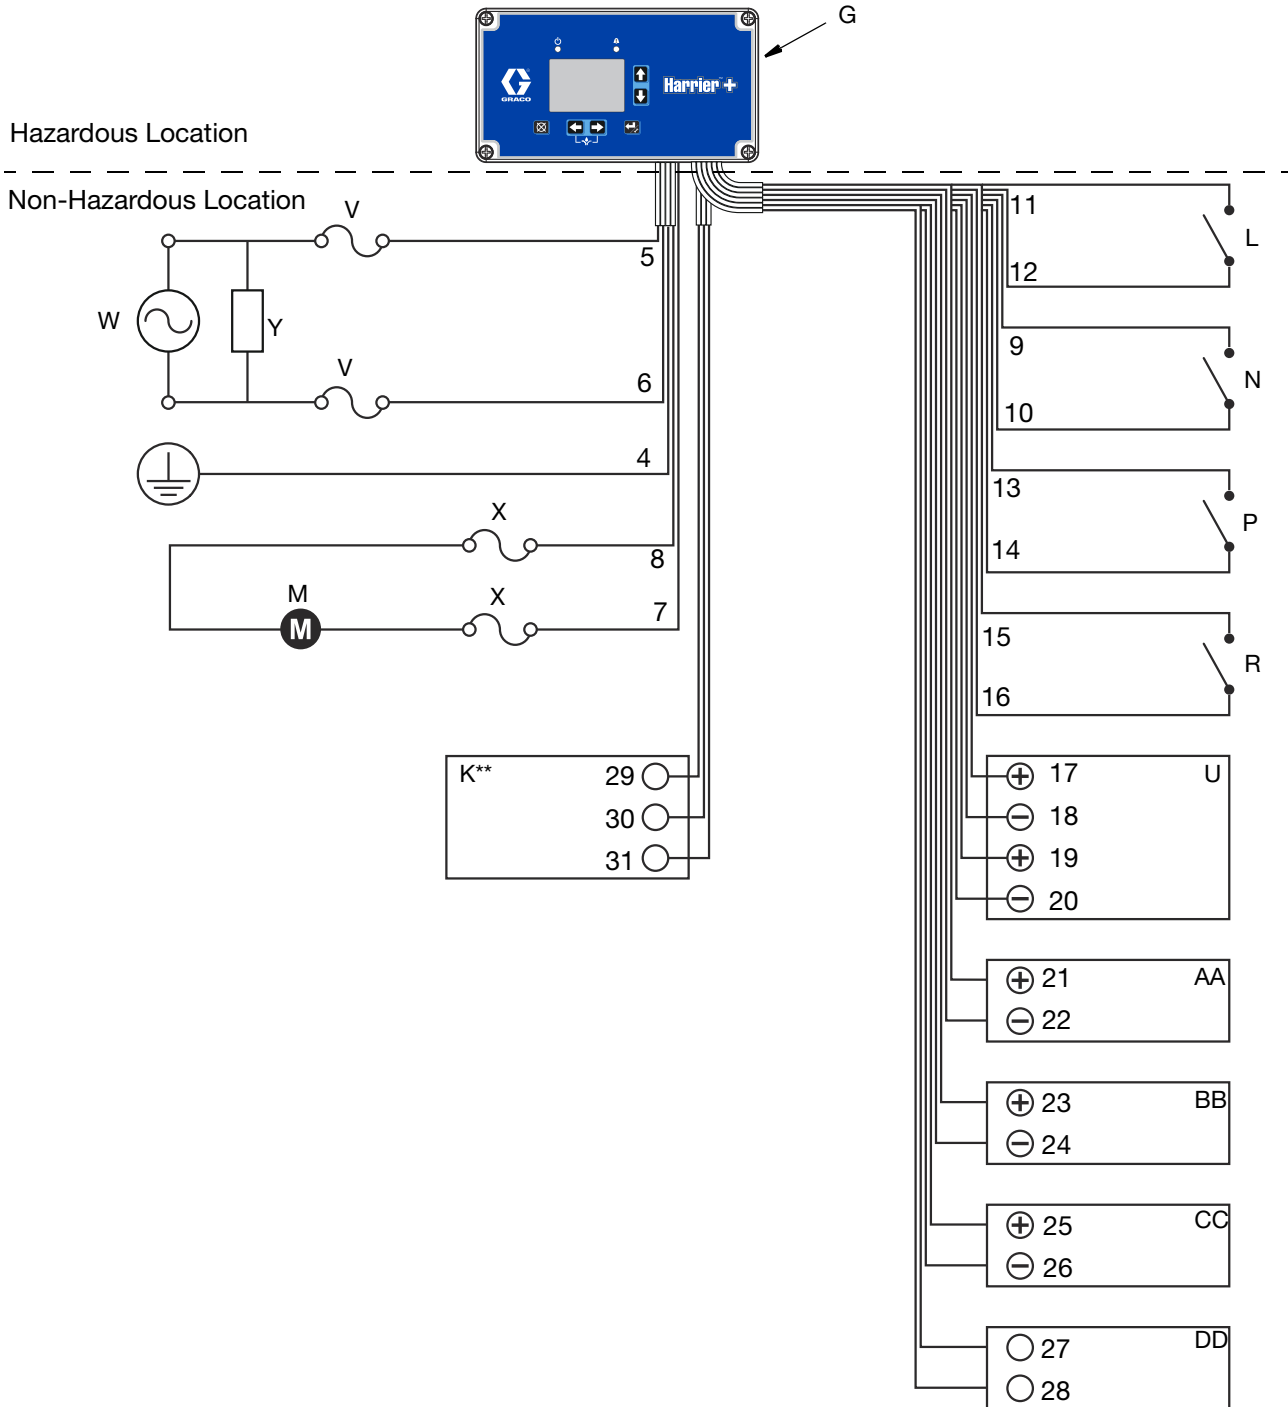

FIG. 6: Typical 240 VAC Installation
FIG. 6 is an example of 240 VAC installation. Your installation may differ from what is shown here. The Harrier+ controller (G), with wiring, is supplied by Graco. All other components are supplied by the customer. Contact your Graco distributor for assistance in planning a system to suit your needs.